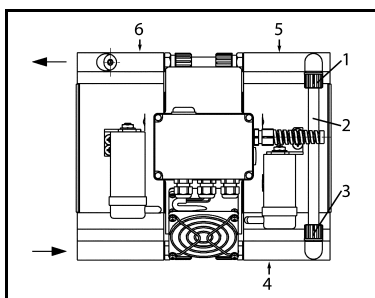
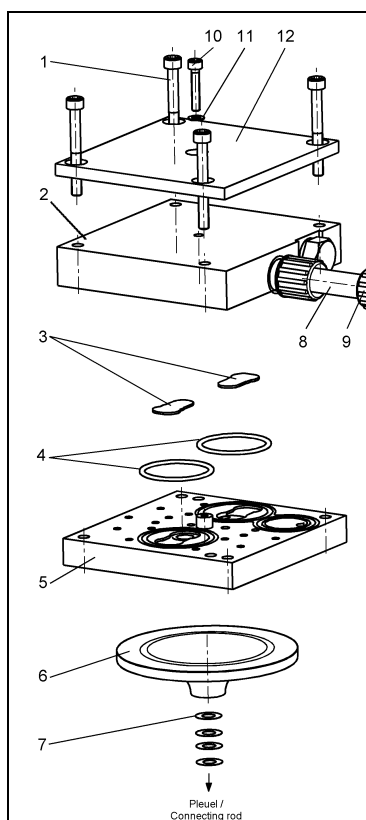

Fig. 25: Pneumatic connection between pump heads 2 and 3
Fig. 26: Replacing diaphragm and valve plates (3. and 4. pump head)
1. Place the intermediate plate (6) with valve plates (3), O-rings (4) and O-ring (8) on the adapter (9) in accordance with the felt-tip pen marking.
2. Place the head plate (2) on the intermediate plate (6) in accordance with the felt-tip pen marking. In doing so, pull the pneumatic connections (13) onto the two screw fittings (11) in the head plate. Do not yet tighten the union nuts (12).
3. Place the top plate (16) on the head plate (2).
4. Make sure that the adapter (9), intermediate plate (6), head plate (2) and top plate (16) are flush with each other.
5. Tighten the four screws (1) diagonally hand-tight.
6. Tighten the screw (14) hand-tight.
i Second pump head: See position (4) in Fig. 25.
Additional step: At the pneumatic connection between pump heads 2 and 3 (2, Fig. 25) use pliers to turn union nuts (1) and (3) counterclockwise, thereby loosening them.
1. At the pneumatic connections (2, Fig. 25) between the second (4) and third (5) pump head: Use pliers to loosen union nuts (1) and (3) by turning them counterclockwise.
2. At the third pump head (5, Fig. 25) mark the position of top plate (12, Fig. 26), head plate (2), intermediate plate (5) and pump housing relative to each other by a drawing line with a felt-tip pen. This helps to ensure proper assembly.
3. At the third pump head unscrew the four screws (1, Fig. 26) and screw (10); remove the top plate (12) head plate (2). Intermediate plate (5) is visible.
4. Take off intermediate plate (5) from pump housing.
5. Lay the two new O-rings (4, Fig. 26) in the seats of intermediate plate (5).
1. Place the intermediate plate (5) with valve plates (3) and O-rings (4) on the pump housing in accordance with the felt-tip pen marking.
2. Place the head plate (2) on the intermediate plate (5) in accordance with the felt-tip pen marking. In doing so, pull the pneumatic connections (2, Fig. 25) onto the two screw fittings in the head plate of the second pump head (4) and the third pump head (5). Do not yet tighten the union nuts (1) and (3).
3. Place the top plate (12, Fig. 26) on the head plate (2).
4. Make sure that the pump housing, intermediate plate (5), head plate (2) and top plate (12) are flush with each other.
6. Tighten the screw (10) hand-tight.
7. Use pliers to securely tighten (turn in clockwise direction) the two union nuts (1, Fig. 25) and (3) at the pneumatic connection between pump heads 2 and 3.
i Fourth pump head: See position (6) in Fig. 25.
Then use pliers to securely tighten (turn in clockwise direction) the union nuts (9, Fig. 26) at the two pneumatic connections (8) between pump heads 3 and 4.